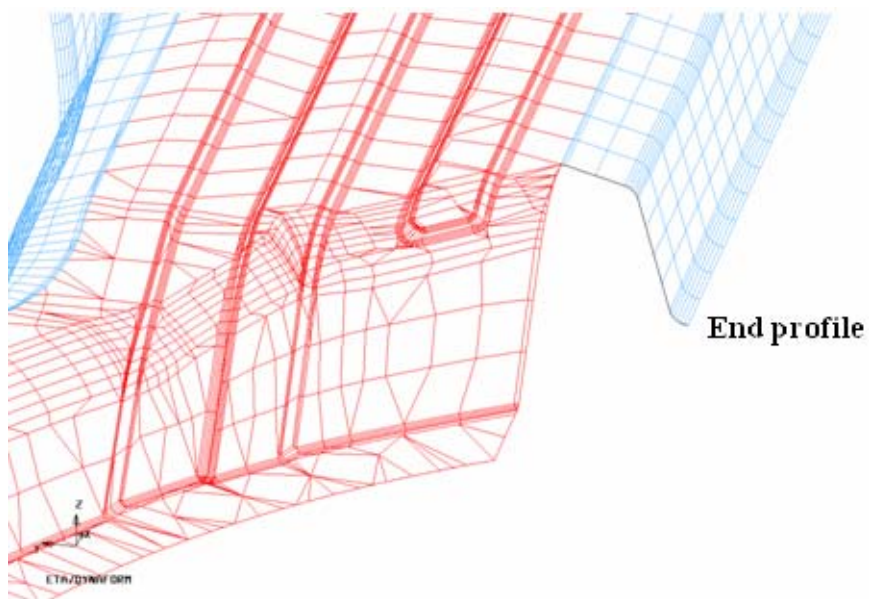

Figure 6.3.19 Select End Profile on Addendum
2. Click the SELECT PROFILE button to select a profile on the addendum boundary. The selected profile will be highlighted as illustrated in Figure 6.3.19.